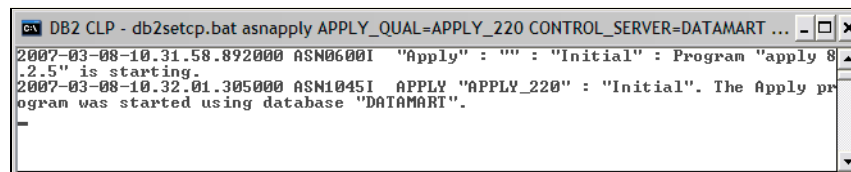

Figure 14-46 DB2 replication scripts: StartApply
- ▶ Execute the apply script (StartApply_10.bat) and leave the window open for replication to occur (Figure 14-46).